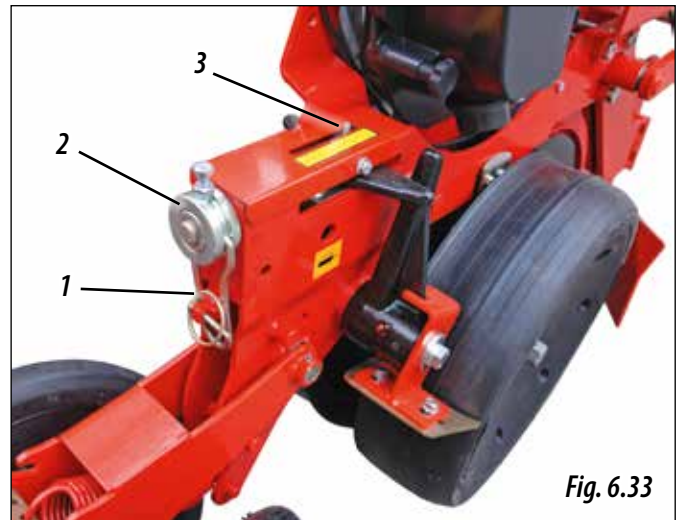

Fig. 6.33
- 1- Remove the pin (1, Fig. 6.33) to free the crank (2, Fig. 6.33).
- 2- Turn the crank to set the desired planting depth. For this purpose, use the depth indicator (3, Fig. 6.33).
- 3- Once the planting depth has been set, lower the crank (2, Fig. 6.33) and place the pin (1, Fig. 6.33) to fix the planting depth.